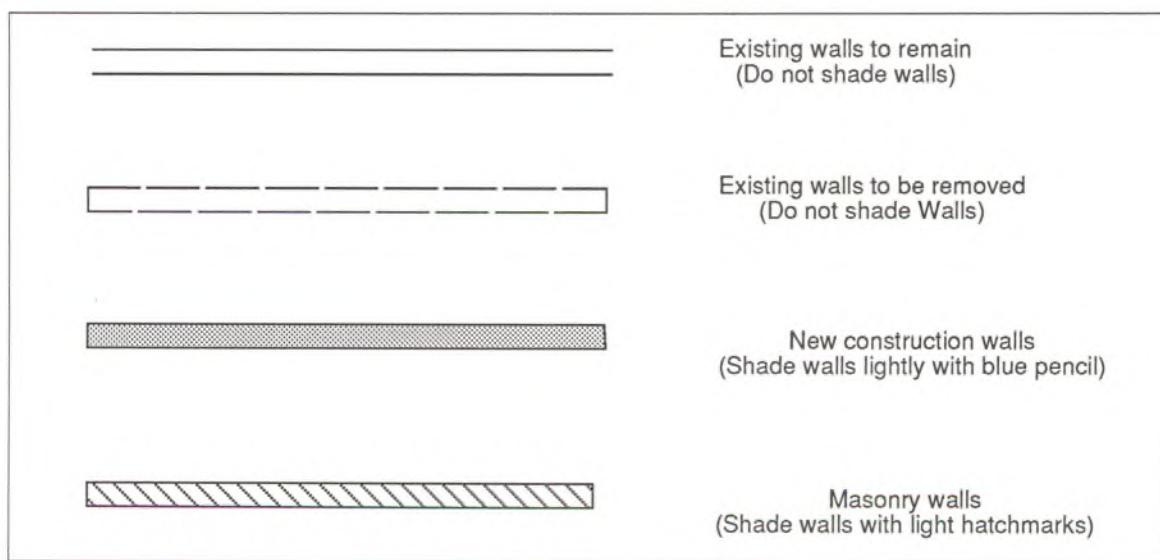
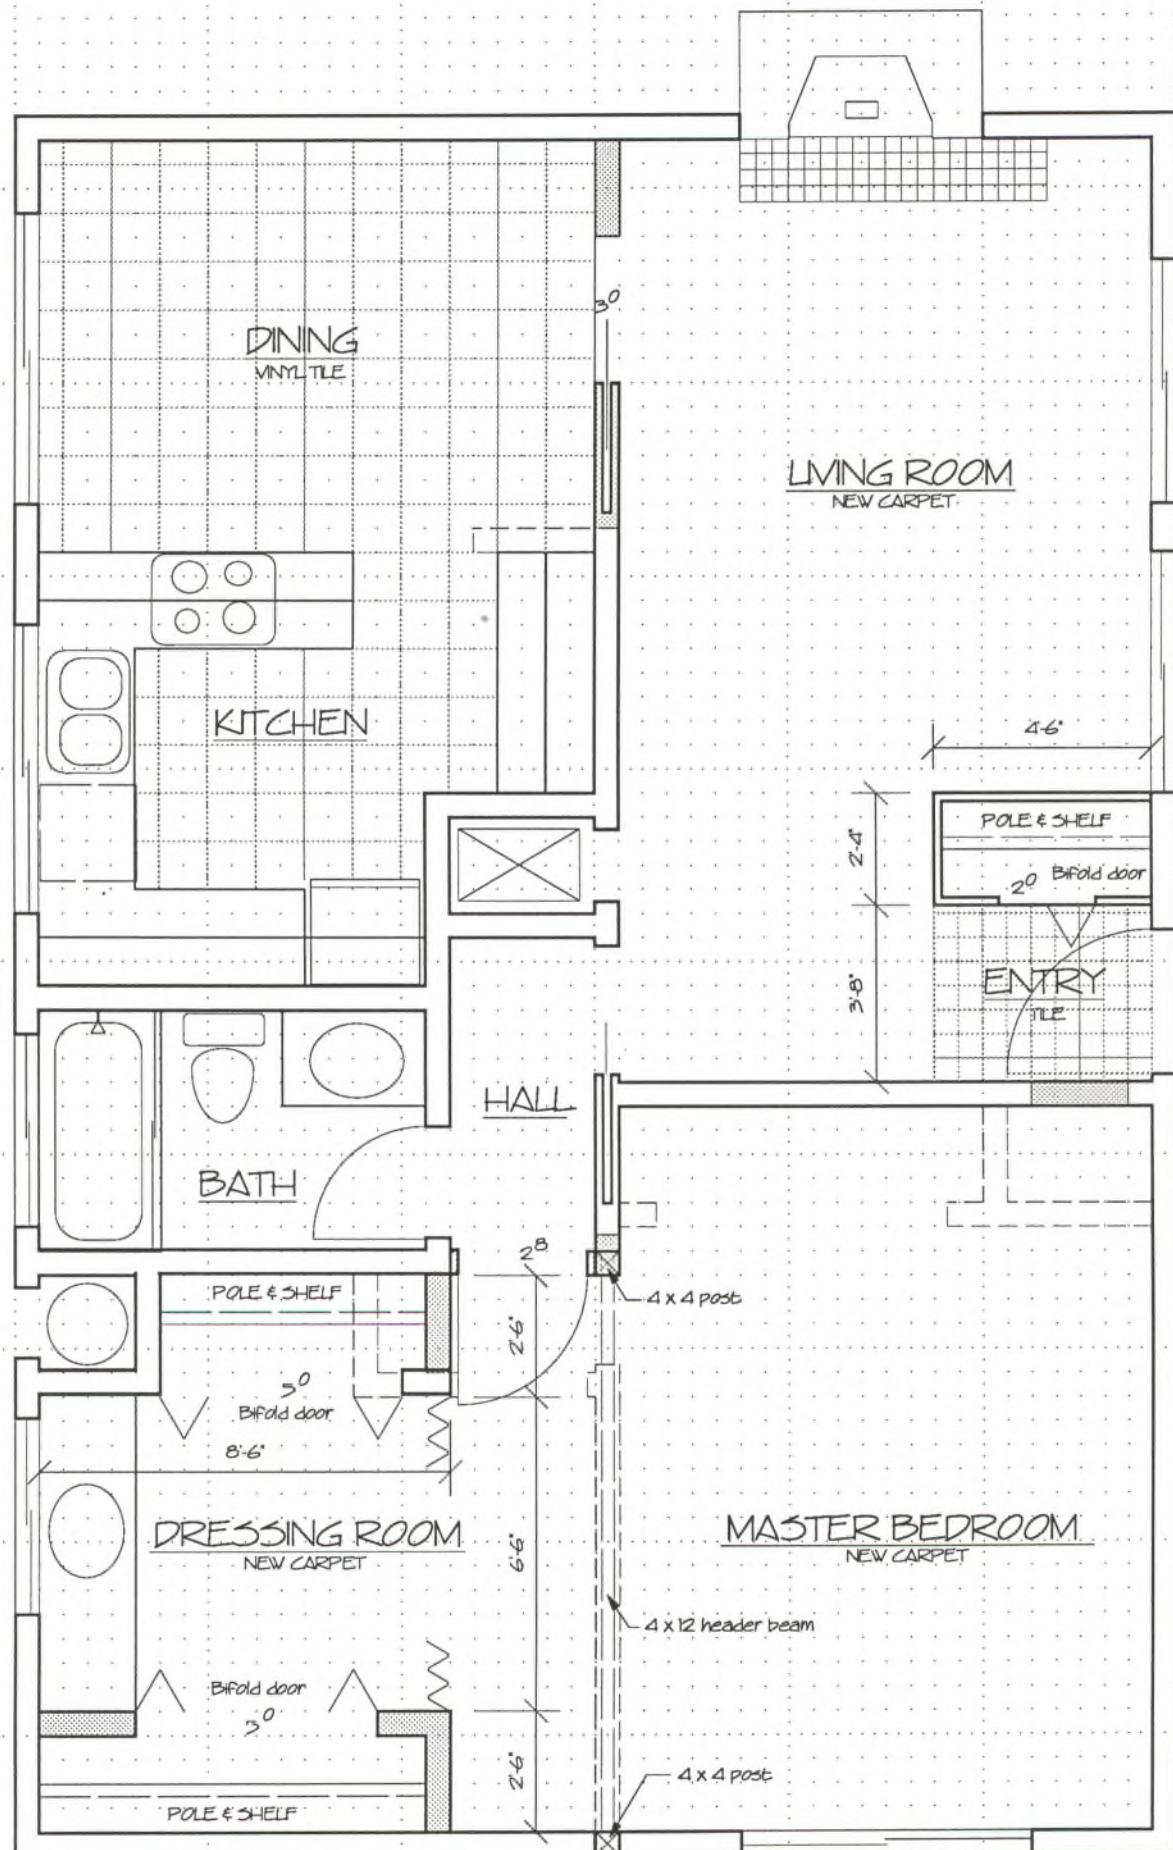

Fig. 29.2 Wall-shading legend.
Fig. 29.3 A remodeling plan for the book sample house.
A floor plan of the house, showing the addition, will help you to visualize spatial relationships between the existing and the new areas. New ways to effectively coordinate, integrate, and rearrange space and furnishings within the existing house may also be revealed. Minimum building department requirements include a floor plan showing rooms adjoining the proposed addition. Figure 29.3 shows a remodeling plan for the book sample house. Review Unit 5, Starting to Draw and Unit 20, Floor Plan.
3. Walls that are to be removed should be dashed on the plan with a heavier pressure on your well-pointed lead. The designation for walls to be removed is shown in Fig. 29.2. See Fig. 29.3 for an example of this designation on a floor plan.
2. Designate any door openings or windows that are to be new. Refer to Fig. 29.3.
5. Shade the walls that are to be new with a colored pencil. Refer to Figures 29.2 through 4.
4. Add the lines representing the walls of the addition. Designate any new windows and doors. Lines representing new walls are to be shaded according to the legend in Fig. 29.2.